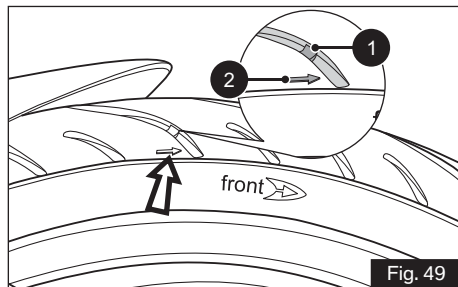

Fig. 49
- ♦ Replace the tyre when the tyre wears off to the tyre wear indicator level (1) which is indicated by the arrow mark (2) on the side surface of the tyre (ref. Fig. 49).
Tread wear marks are integrated into the main grooves on every tyre. If the tyre tread has worn down to the level of the marks, the tyre is completely worn. The location of the tread wear marks are indicated by an aero mark on the edge of the tyre (ref. Fig. 49). Replace the tyre when the minimum tread depth is reached.